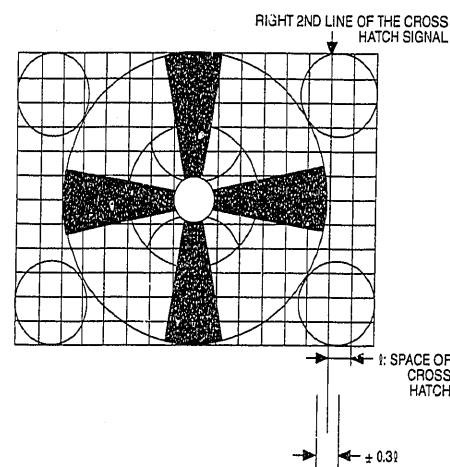

Fig. 1-6-1. On-screen display position specification.
- Check that the right end of the displayed number is at the position shown in Fig. 1-6-1.